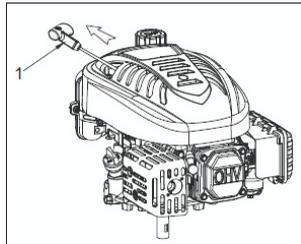

Fig 3
⚠ WARNING: Do not allow the starter grip (1) to snap back against the engine. Return it gently to prevent damage to the starter. (Fig. 3)